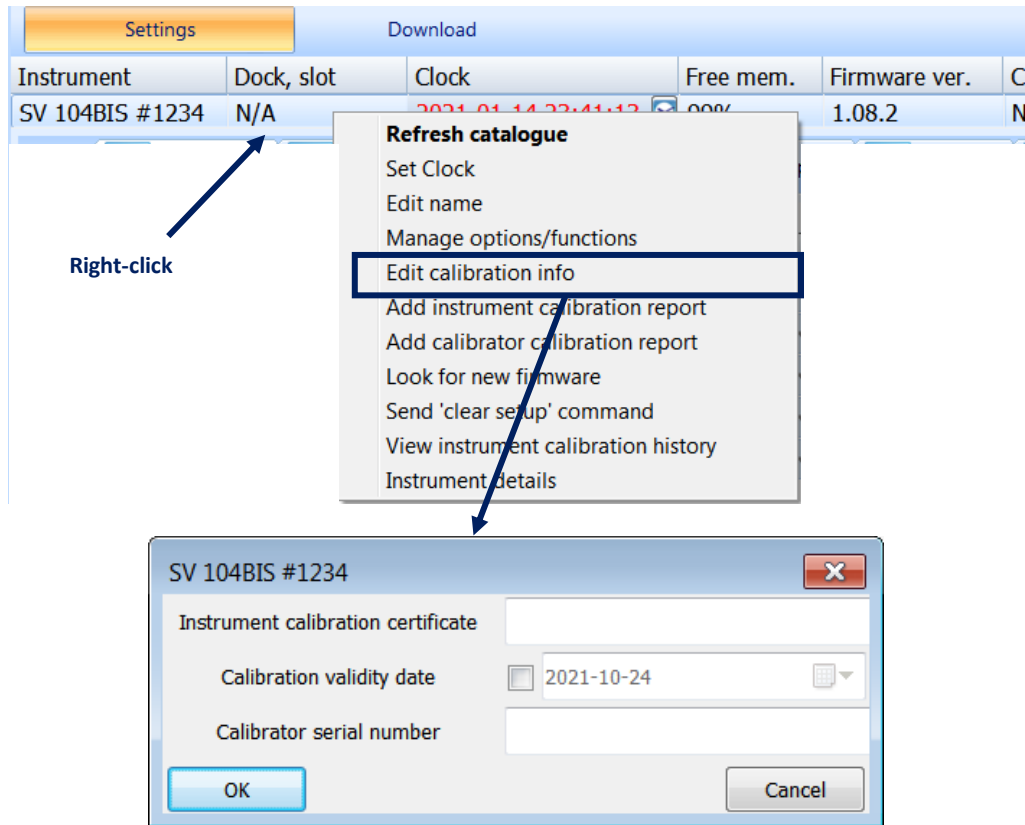

Fig. 2-2. Editing calibration information
**Note:** The information about calibration can be specified by right-clicking on the table row containing a particular Svantek instrument and, in the context menu, selecting the *Edit calibration info* command (Fig. 2-2).